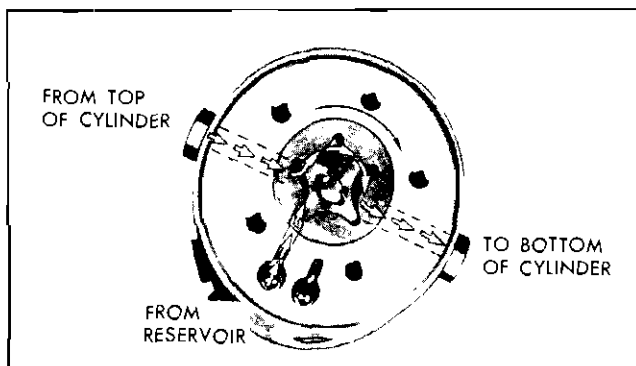

Fig. 7-55 Pump Operation—Raise Top
1. **Raising the Top.** When the red motor lead is energized the motor drive shaft turns the rotors clockwise as indicated by the large arrow in Fig. 7-55. The action of the pump rotors forces the fluid under pressure to the bottom of each cylinder forcing the piston upward. This action causes the fluid above the piston in each cylinder to be forced into the pump, which recirculates the fluid to the bottom of the cylinders. The additional fluid required to fill the cylinder due to piston rod displacement is drawn from the reservoir.